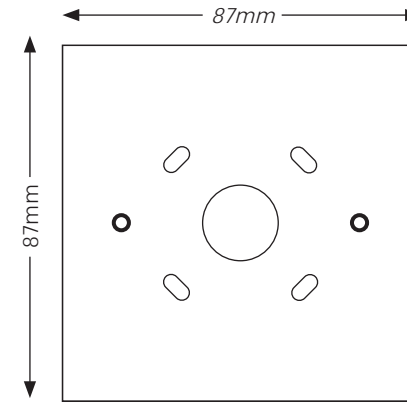

Fig 1 Backbox
1. Fit the backbox (**Fig 1**) to the wall.